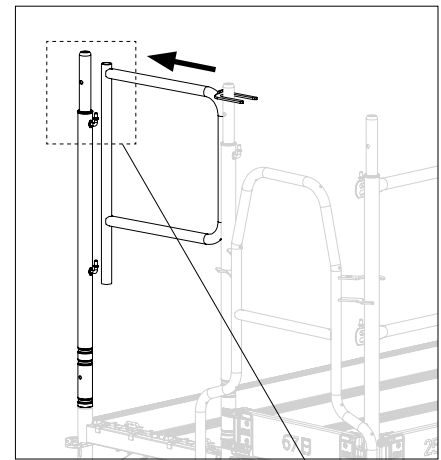

Fig. A3.15b
2. Attach both slots (54.2) to the guardrail hooks. (Fig. A3.15b)